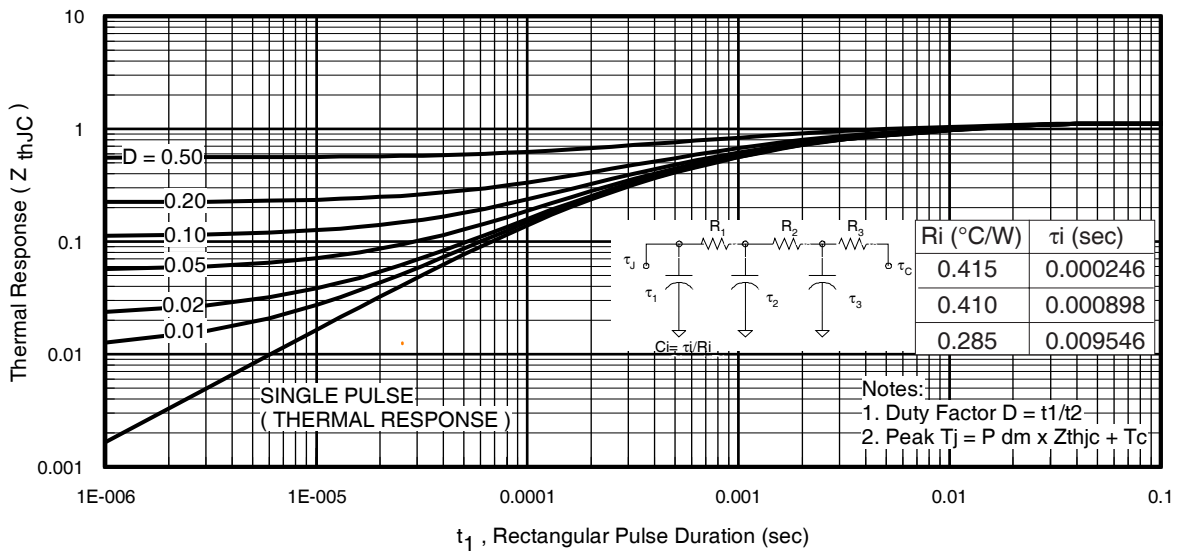
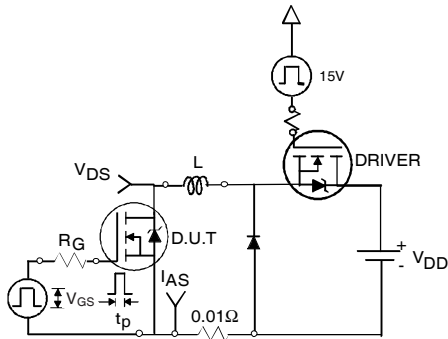

Fig 11. Maximum Effective Transient Thermal Impedance, Junction-to-Case
Fig 12a. Unclamped Inductive Test Circuit
- ① Repetitive rating; pulse width limited by max. junction temperature. (See fig. 11).
- ② Limited by T_{Jmax} , starting $T_J = 25^\circ\text{C}$, $L = 0.077\text{mH}$, $R_G = 25\Omega$, $I_{AS} = 51A$, $V_{GS} = 10V$. Part not recommended for use above this value.
- ③ $I_{SD} \leq 51A$, $di/dt \leq 260A/\mu s$, $V_{DD} \leq V_{(BR)DSS}$, $T_J \leq 175^\circ\text{C}$.
- ④ Pulse width $\leq 1.0\text{ms}$; duty cycle $\leq 2\%$.
- ⑤ $C_{oss\ eff.}$ is a fixed capacitance that gives the same charging time as C_{oss} while V_{DS} is rising from 0 to 80% V_{DSS} .
- ⑥ Limited by T_{Jmax} , see Fig.12a, 12b, 15, 16 for typical repetitive avalanche performance.
- ⑦ This value determined from sample failure population, starting $T_J = 25^\circ\text{C}$, $L = 0.077\text{mH}$, $R_G = 25\Omega$, $I_{AS} = 51A$, $V_{GS} = 10V$.
- ⑧ This is applied to D²Pak, when mounted on 1" square PCB (FR-4 or G-10 Material). For recommended footprint and soldering techniques refer to application note #AN-994.
- ⑨ R_θ is measured at T_J approximately 90°C .
3. Equation below based on circuit and waveforms shown in Figures 12a, 12b.
$Z_{thJC}(D, t_{av})$ = Transient thermal resistance, see figure 11)